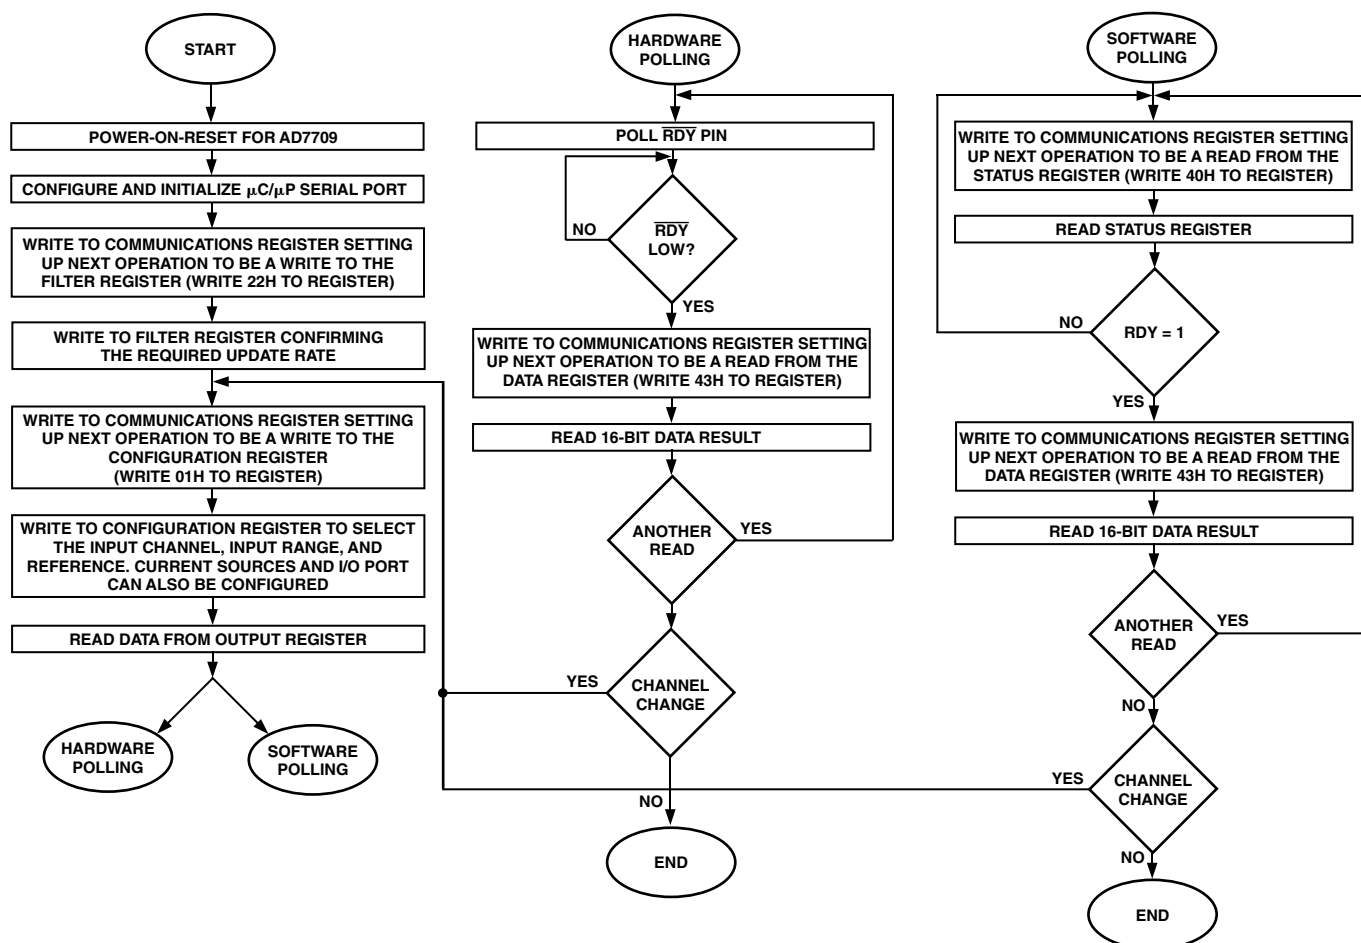
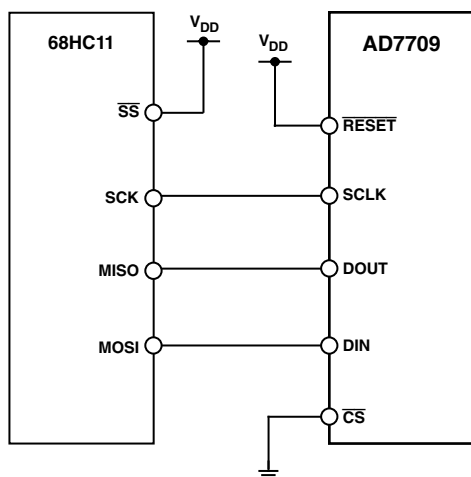

Figure 10. Flowchart for Initializing and Reading Data from the AD7709
Figure 11. AD7709-to-68HC11 Interface
Figure 10 outlines a flow diagram of the sequence used to configure all registers after a power-up or reset on the AD7709. The flowchart shows two methods of determining when it is valid to read the data register. The first method is hardware polling of the $\overline{\text{RDY}}$ pin and the second method involves software interrogation of the RDY bit in the status register. The flowchart details all the necessary programming steps required to initialize the ADC and read data from the ADC channel following a power-on or reset. The steps can be broken down as follows:
3. When configuration is complete, the user needs to determine when it is valid to read the data from the data register. This is accomplished either by polling the $\overline{\text{RDY}}$ pin (hardware polling) or by interrogating the RDY bit in the STATUS register (software polling). Both are shown in Figure 10.
The AD7709 flexible serial interface allows for easy interface to most microcomputers and microprocessors. The flowchart of Figure 10 outlines the sequence that should be followed when interfacing a microcontroller or microprocessor to the AD7709. Figures 11, 12, and 13 show some typical interface circuits. The serial interface on the AD7709 is capable of operating from just three wires and is compatible with SPI interface protocols. The 3-wire operation makes the part ideal for isolated systems where minimizing the number of interface lines minimizes the number of opto-isolators required in the system. The serial clock input is a Schmitt-triggered input to accommodate slow edges from opto-couplers. The rise and fall times of other digital inputs to the AD7709 should be no longer than 1 μ s.
Figure 11 shows an interface between the AD7709 and the 68HC11 microcontroller. The diagram shows the minimum (3-wire) interface with $\overline{CS}$ on the AD7709 hardwired low. In this scheme, the RDY bit of the Status Register is monitored to determine when the Data Register is updated. An alternative scheme, which increases the number of interface lines to four, is to monitor the $\overline{RDY}$ output line from the AD7709. The monitoring of the $\overline{RDY}$ line can be done in two ways. First, $\overline{RDY}$ can be connected to one of the 68HC11 port bits (such as PC0), which is configured as an input. This port bit is then polled to determine the status of $\overline{RDY}$. The second scheme is to use an interrupt driven system, in which case the $\overline{RDY}$ output is connected to the IRQ input of the 68HC11. For interfaces that require control of the $\overline{CS}$ input on the AD7709, one of the port bits of the 68HC11 (such as PC1), which is configured as an output, can be used to drive the $\overline{CS}$ input.